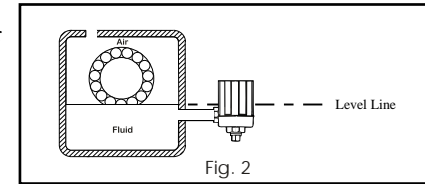

Fig. 2
4. Verify that assembly is level and parallel with desired oil level. (Fig. 2) Make necessary adjustments if needed (the **Opto Laser Level Tool** can be used to help with alignment).